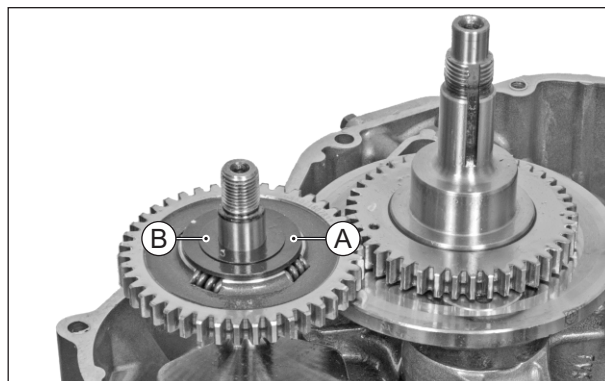

Fig. 3.181
- Assemble the retainer spring (A) and the shim (B) on the balancer shaft. (Fig. 3.181)